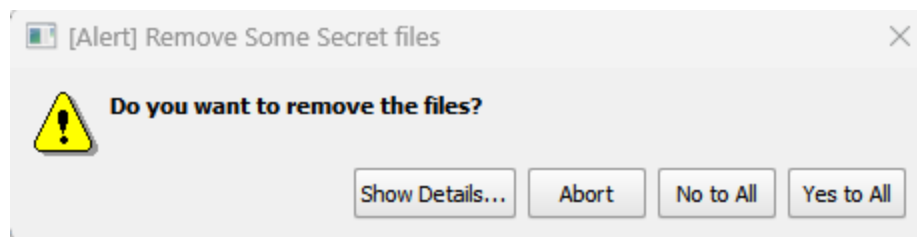

Figure 30. Remove Some Secret files alert
2. When prompted, click **Yes to All** (Figure 30).